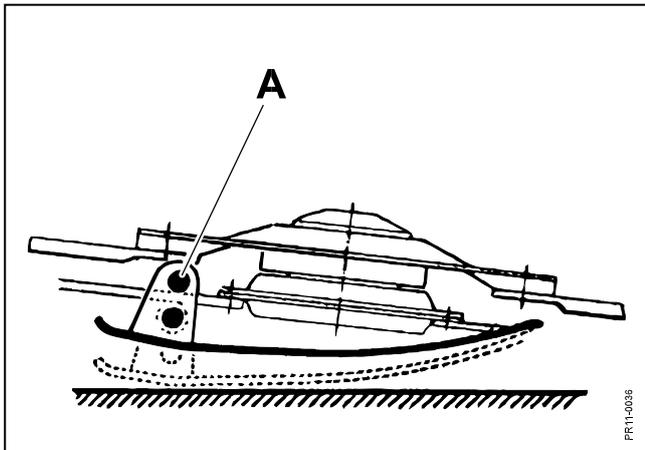

Fig. 3-11
- Fig. 3-11** 2) Adjust **the stubble height** by means of the guide shoes and by adjusting the inclination of the cutter bar.